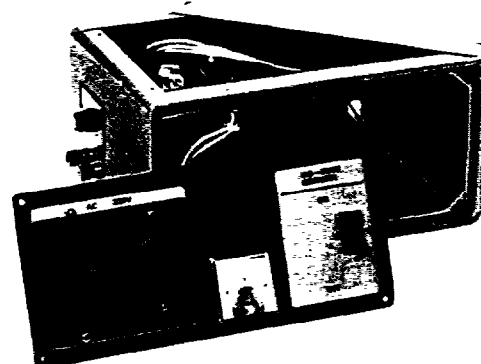

Fig. 10-34
- 1) Remove the control box top lid, and the front panel from the control box. (See Fig. 10-34.)